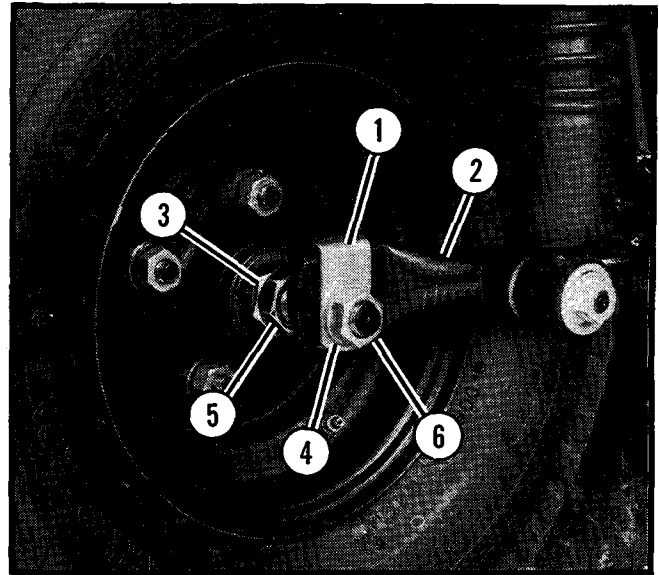

Figure 12.
1. Reinstall the entire wheel, hub and axle assembly. Make sure all parts are properly positioned. See Figure 12.
- When reinstalling the front wheel and axle assembly to the fork side arm, the front axle lock must be positioned over the side arm (as shown Figure 12.) and the axle nuts tightened. Failure to follow the procedure may cause erratic steering and/ or loss of control of the vehicle.